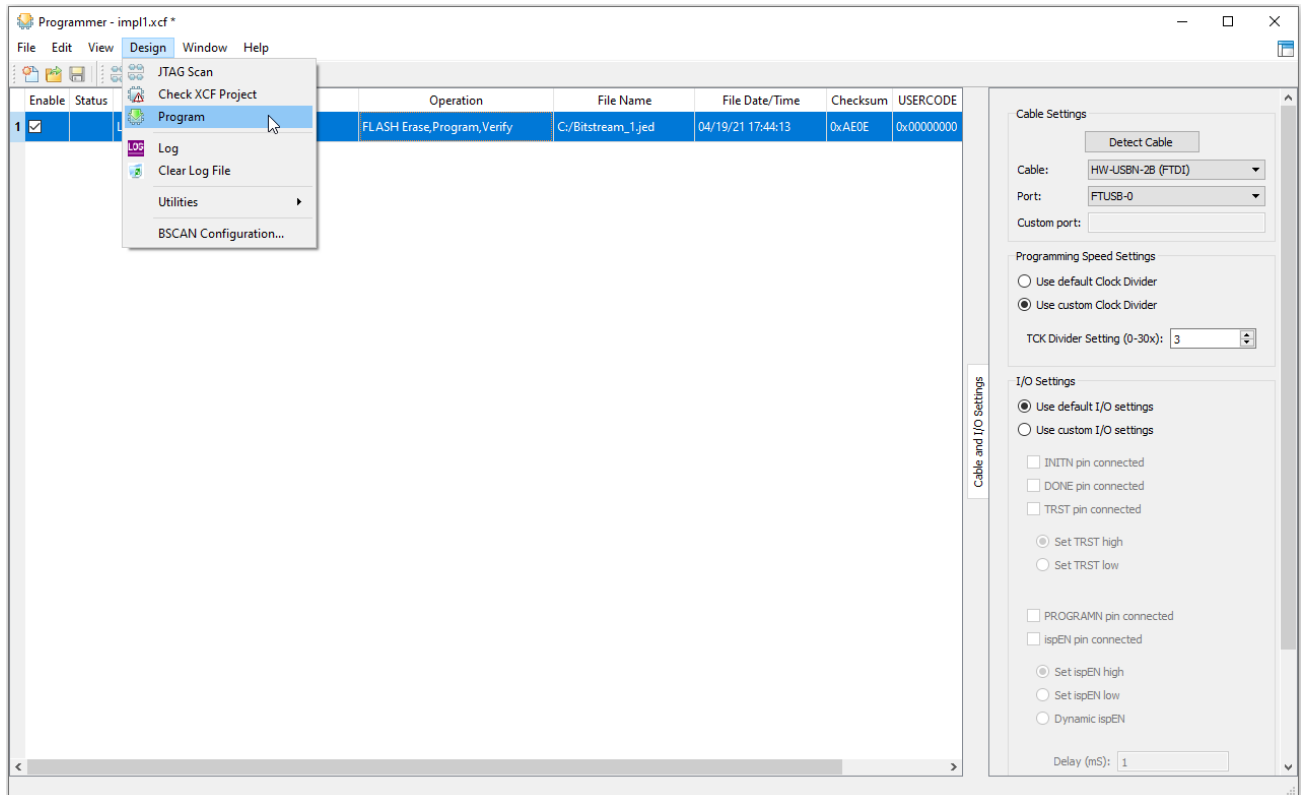

Figure 3.6. Diamond Programmer Window
4. Click the **Program** icon () from the toolbar, or select **Design > Program** (Figure 3.6) to program the Mach-NX device.